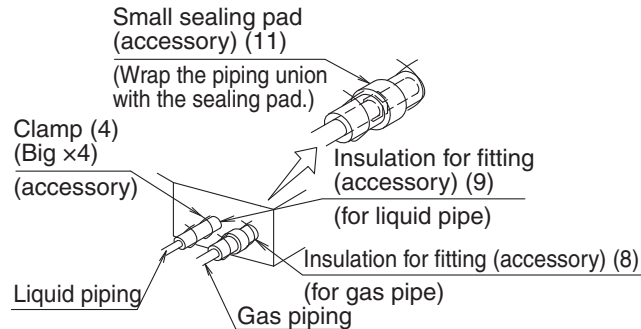

Fig. 16
- Make absolutely sure to execute thermal insulation works on the pipe-connecting section after checking gas leakage by thoroughly studying the following figure and using the attached thermal insulating materials for fitting (8) and (9). Fasten both ends with the clamps (4). **(Refer to Fig. 16)**
- Wrap the sealing pad (11) only around the insulation for the joints on the gas piping side. **(Refer to Fig. 16)**